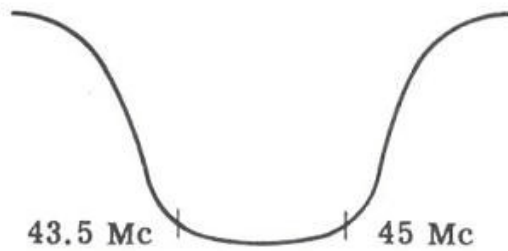

Fig. 31
2. Connect the sweep generator to point "E" (pin 1 of the 6AU6 2nd IF) and adjust T4 at 45 Mc and T3 at 43.5 Mc until a symmetrical curve shown in Fig. 31 is obtained.
The 43.5 and 45 Mc markers should fall slightly inside the peaks. It may be necessary to readjust T3 or T4, or both if the peaks do not increase approximately the same when T5 is rocked. After the peaks are checked, T5 should be adjusted for symmetry. See Fig. 31.